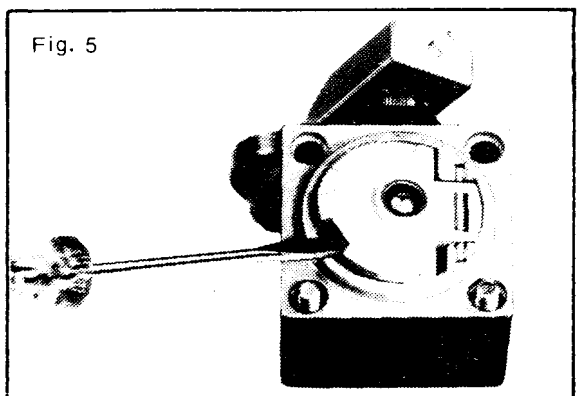

Fig. 5
2. On the bottom of the head, insert a screwdriver in the slot provided (Fig. 5) and lift open the hinged cover.